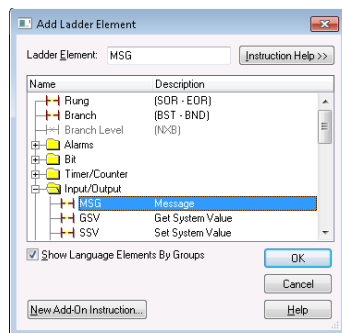

Figure 41: Adding a MSG Instruction
- Select the “MSG” instruction in the Input/Output folder. Refer to Figure 41.